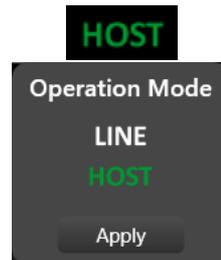

Figure 15: Operation Mode
- Operation Mode allows you to switch between Tx and DTx (Figure 15).